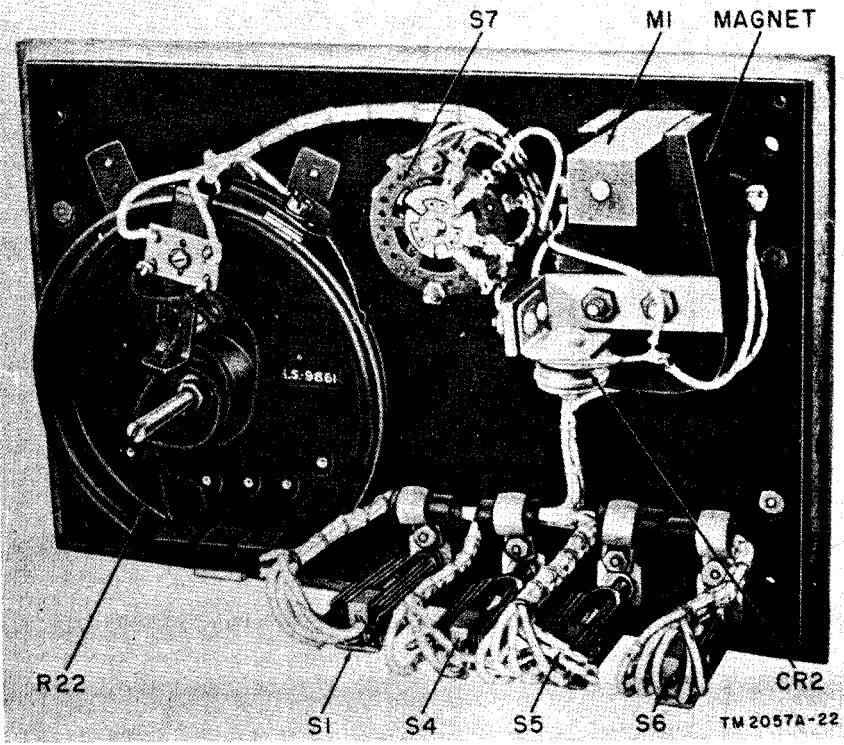
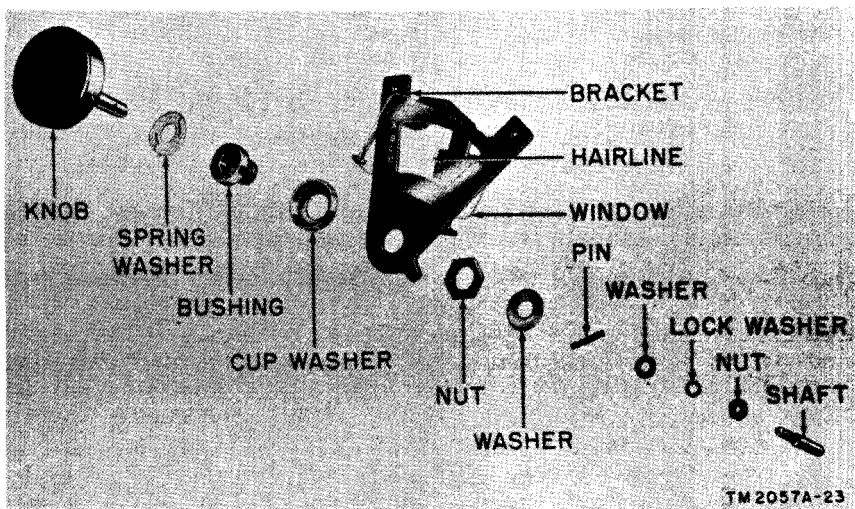

Figure 24. Test Set TS-27B/TSM, bottom view of instrument panel.
Figure 25. Test Set TS-27B/TSM, exploded view of slide-wire potentiometer (R22) knob and mounting bracket.
b. SLIDE-WIRE POTENTIOMETER R22. Release the instrument panel by taking out the flathead screws in each of the four corners. Turn the panel over (fig. 24) and rest it carefully on a suitable support. Loosen the small hexagonal nut (fig. 25) on the end of the shaft nearest the drum. Remove the dial drum carefully so as not to damage the contact arm which bears on the slide-wire. A certain amount of pressure may be necessary to do this. Remove the pin from the knob shaft and then lift out the knob. Solder the leads to the new slide-wire potentiometer R22; check connections with the wiring diagram of figure 21.
CAUTION: Handle the slide-wire potentiometer carefully to avoid damaging the winding. Do not touch the winding with bare hands or fingers, since this may throw the potentiometer out of calibration. Slight nicks in the wire may also cause faulty indications, and are therefore to be avoided. Reassemble the new slide-wire potentiometer to the instrument panel by reversing the removal procedures given above. Make certain the leads from the slide-wire are wrapped around the shaft properly (fig. 24) to allow for the slack needed by the turning of the drum.
b. If the reading on scale C differs by more than two percent from the known value of the resistor under test, release the screw which clamps the slide-wire contactor to the hairline bracket (fig. 24), and carefully shift the position of the contactor until the galvanometer indicates zero when the proper push switch (OHMS or OHM X100) is depressed. Then tighten the clamping screw, being very careful not to change the position of the contactor. Depress the proper push switch again and check the clamped position of the contactor. Disconnect the known resistor from binding posts T-R of PR-1.